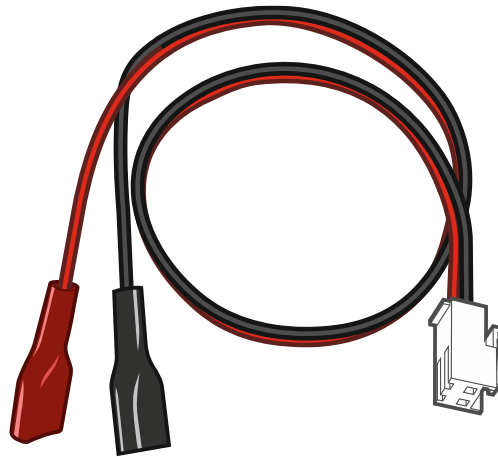

Fig. 2. Battery connection wires (red +, black -).
- ② RESET pins for emergency starting the control panel (see: “Emergency procedure of the control panel start-up” p. 14).
- ③ RS-232 (TTL) port.
- ④ connector for battery connection wires. The wires are included in the set (Fig. 2).
- ⑤ cable terminated with an antenna connector. If the control panel is installed in a plastic enclosure, you can use an antenna that can be installed inside the enclosure. If the control panel is installed in a metal enclosure, use an antenna that can be installed on the enclosure or at a certain distance from the enclosure.
- ⑥ SIM1 LED. The LED is on, when the card installed in the SIM 1 slot is active.
- ⑦ SIM2 LED. The LED is on, when the card installed in the SIM 2 slot is active.
⑧ SIM1 slot in which the first SIM card is to be installed.
⑨ SIM2 slot in which the second SIM card is to be installed.
⑩ communication connector for connecting the PERFECTA-RF module.
⑪ mini-jack socket for connecting microphone.